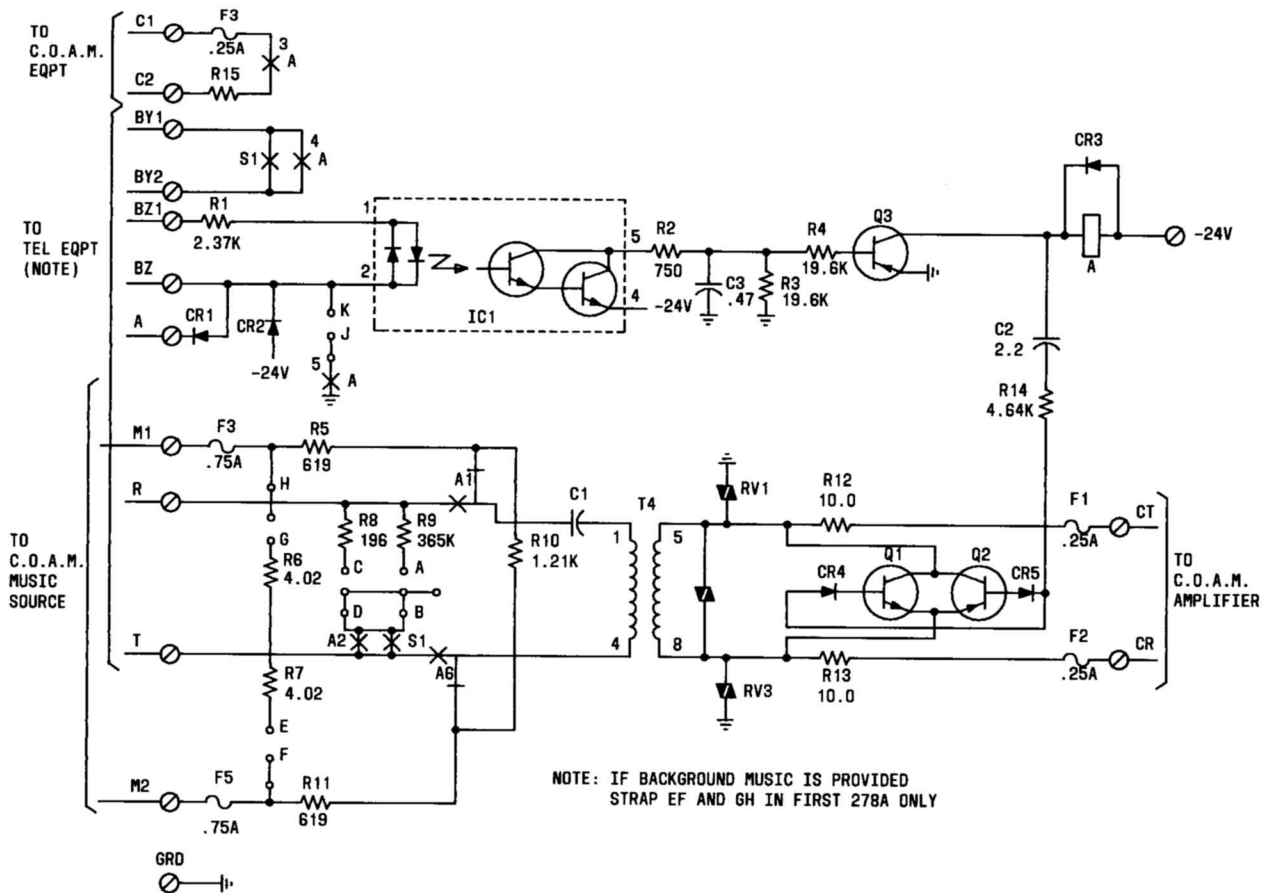

Fig. 2—Schematic Diagram - 278A
3.04 Connections between the 278A adapter and the 1A1 and 1A2 KTS are shown in Fig. 2, 3, and 4.